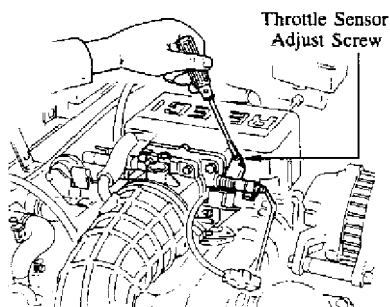

Fig. 3: Adjusting Throttle Sensor
Turn the adjust screw clockwise until the voltage at terminal (A) becomes approximately 12v. Then turn the adjust screw an additional 1/4 to 1/2 turn clockwise. Confirm that the voltages at terminals (A) and (B) are as shown in Step 3(a). (Fig. 3)